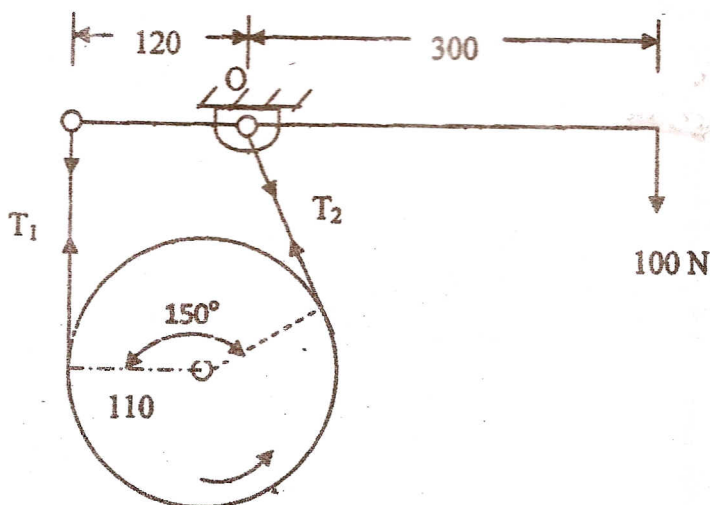

Fig. 3
- (a) A thrust bearing of a propeller shaft consists of a number of collars. The shaft is of 400 mm diameter and rotates at a speed of 90 rpm. The thrust on the shaft is 300 kN. If the intensity of the pressure is to be 200 kN/m² and coefficient of friction is 0.06, determine external diameter of the collars. The power lost in friction is not to exceed 48 kW. (10)
- Mass density of the belt material = 1.1×10^{-3} g/mm³. (10)
- (c) Fig. 3 shows a simple band brake which is applied to a shaft carrying a flywheel of mass 300 kg and radius of gyration 280 mm. The drum diameter is 220 mm and the shaft speed 240 rpm. The coefficient of friction is 0.3. Find the brake torque when a force of 100 N is applied at the lower end. Also determine the number of turns of the flywheel and time taken by it before coming to rest. All dimensions are in mm. (10)